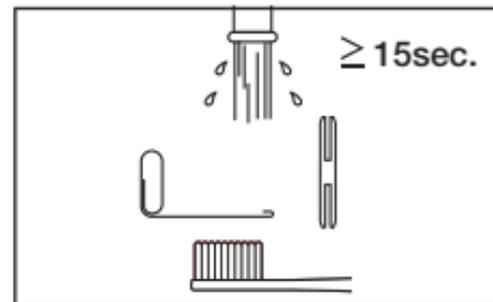

Fig. 15
- 3 Clean the external surface of the Bur Stopper and Bur Stopper Puller with a soft bristled toothbrush for 15 seconds or more. (Fig. 15)